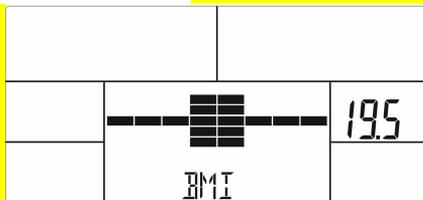
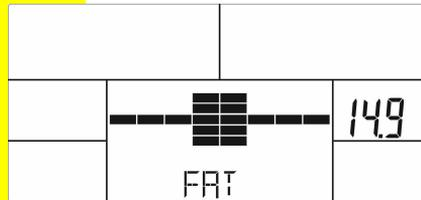

FIG 25
FIG 26
5. The LCD will display the body FAT recommendation symbol, BMI (Figure 25) and FAT % (Figure 26) for 30 seconds.